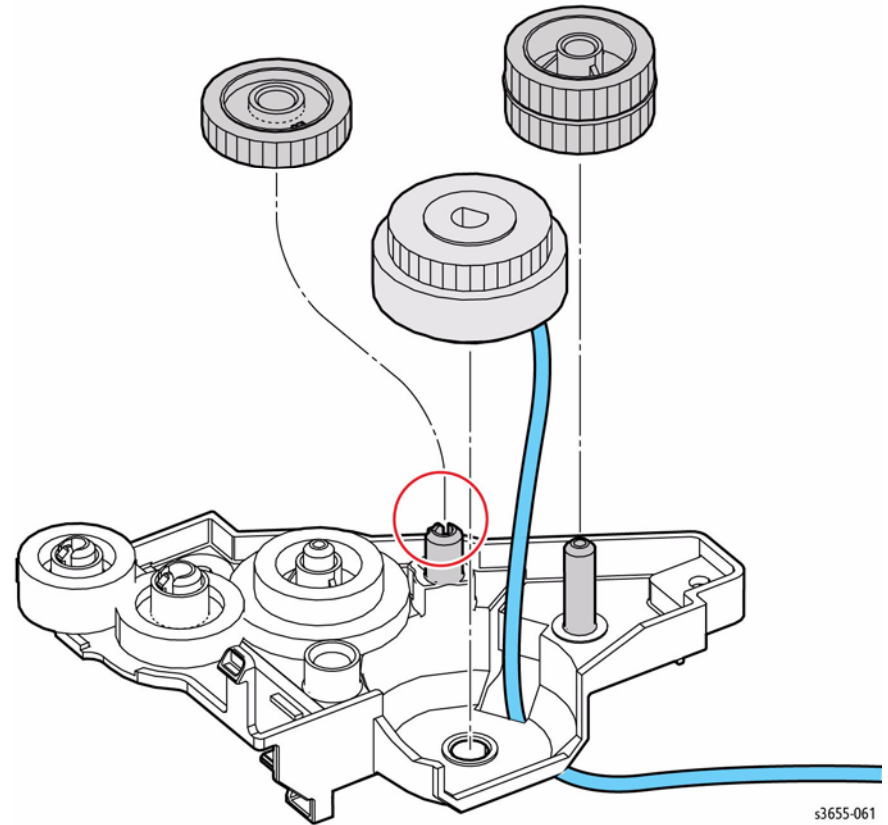

Figure 5 Assemble the Exit Drive Assembly
1. Figure 5 shows gear placement in the Exit Drive Assembly.